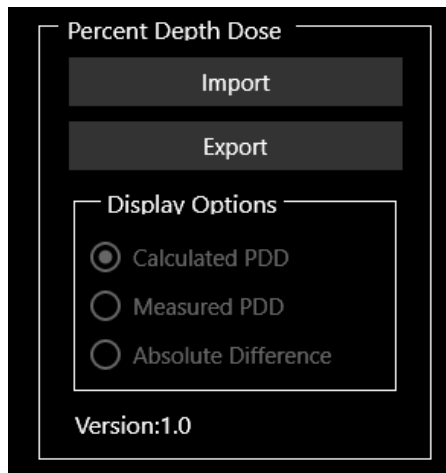

Figure 10.10: PDD Dialog Box
3. Review the Calculated Percent Depth Dose (PDD) data (see Figure 10-10).